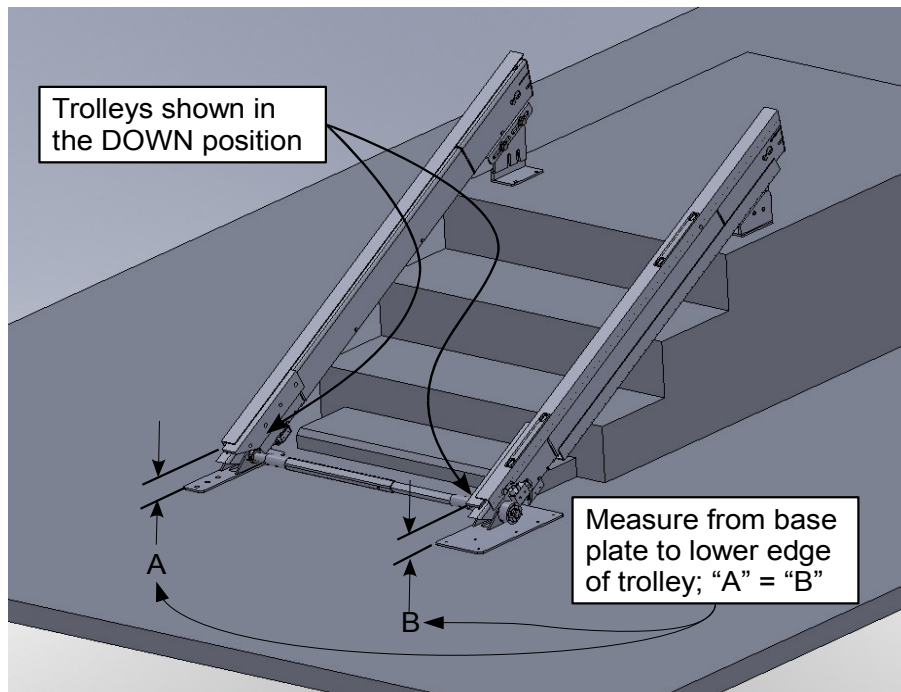

Figure 4: Trolley Alignment
- Move the trolleys (Figure 4) to the bottom of the guide rails before installing the telescoping drive shaft between the rails.
- Position the trolleys by measuring from the end of the guide rails to a point on the trolleys as illustrated by dimensions “A” and “B” of Figure 4. *Tip:* positioning the trolleys so that the pin holes on each guide rail drive shaft and coupling are facing up makes it easier to align the holes and drive in the split pins.